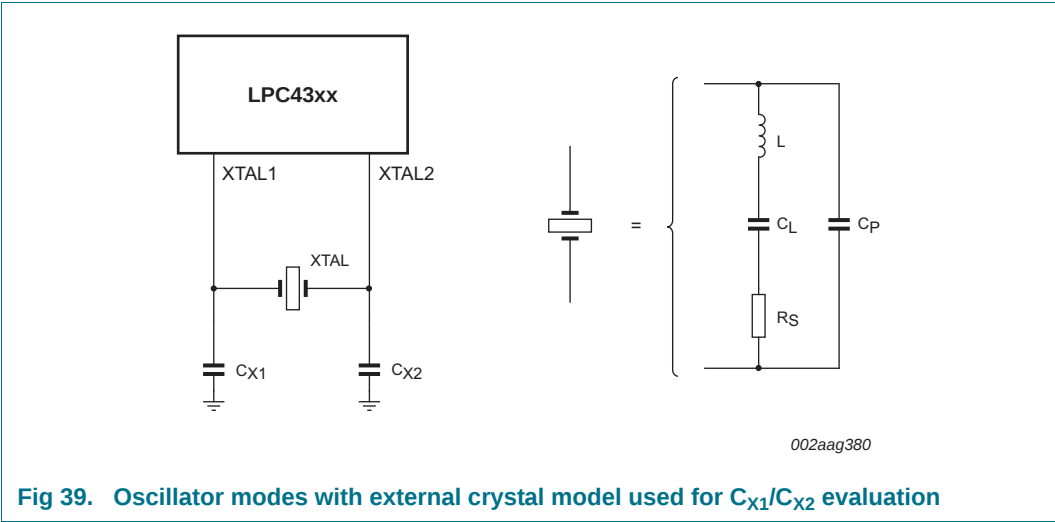

Fig 39. Oscillator modes with external crystal model used for C_{X1}/C_{X2} evaluation
- External components and models used in oscillation mode are shown in Figure 39, and in Table 37 and Table 38. Since the feedback resistance is integrated on chip, only a crystal and the capacitances C_{x1} and C_{x2} need to be connected externally in case of fundamental mode oscillation (L , C_L and R_s represent the fundamental frequency). Capacitance C_P in Figure 39 represents the parallel package capacitance and must not be larger than 7 pF. Parameters F_c , C_L , R_s and C_P are supplied by the crystal manufacturer.